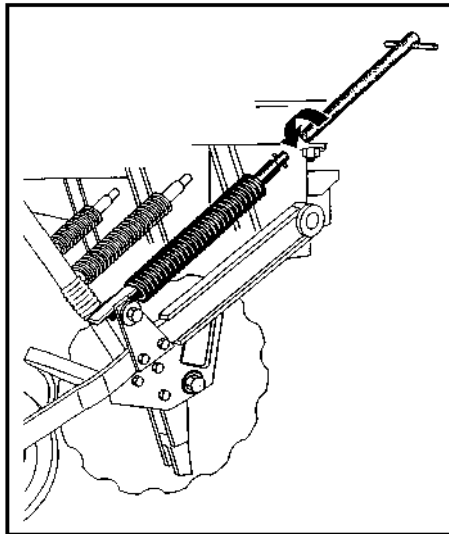

Fig. 21
- a) Adjusting the tension of the spring (Fig. 21)